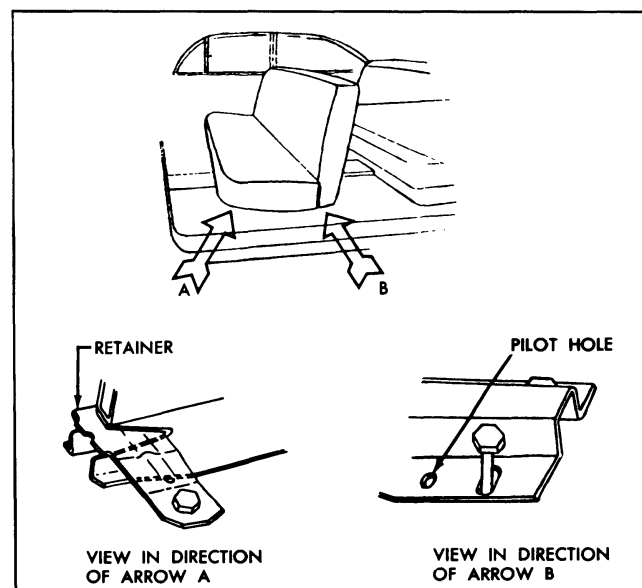

Fig. 18-5 Front Seat Repositioning
4. Enlarge pilot holes in seat adjuster located one (1) inch forward of attaching holes at rear of each seat adjuster to 3/8" diameter. (Fig. 18-5)